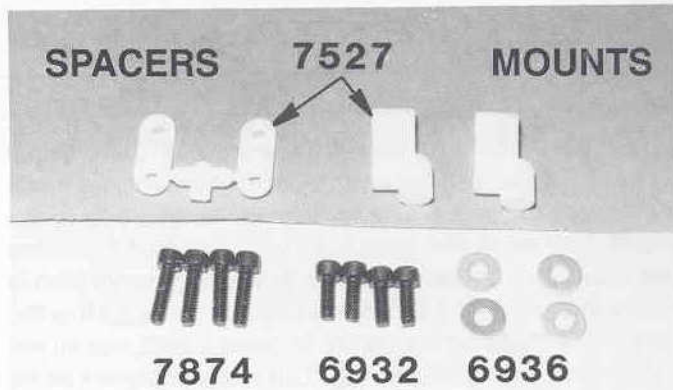

Fig. 208
We now want to check the fit of the steering servo in the chassis. Place the servo between the servo mounts with the mounting ears to the right of the servo mounts. Now push the servo towards the left side of the chassis. The servo should sit flat against the servo mounts before the bottom of the servo hits the left side of the chassis. See arrows in fig. 206. If it does not (see gap in fig. 207), then we will need to install the #7527 steering servo spacers when we bolt the servo to the servo mounts (see fig. 208). **Note:** *The servo horn was removed for clarity, so be sure to reinstall it before you finish installing the steering servo.*
□ **Figs. 208, 209 & 210** Again from bag #7-6 get two #7527 steering servo spacers, four #6936 #4 aluminum washers, and four #6932 4-40x5/16" SHCScrews and four #7874 4-40 x 7/16" SHCScrews. Remove the #7527 steering servo mounts from the chassis.